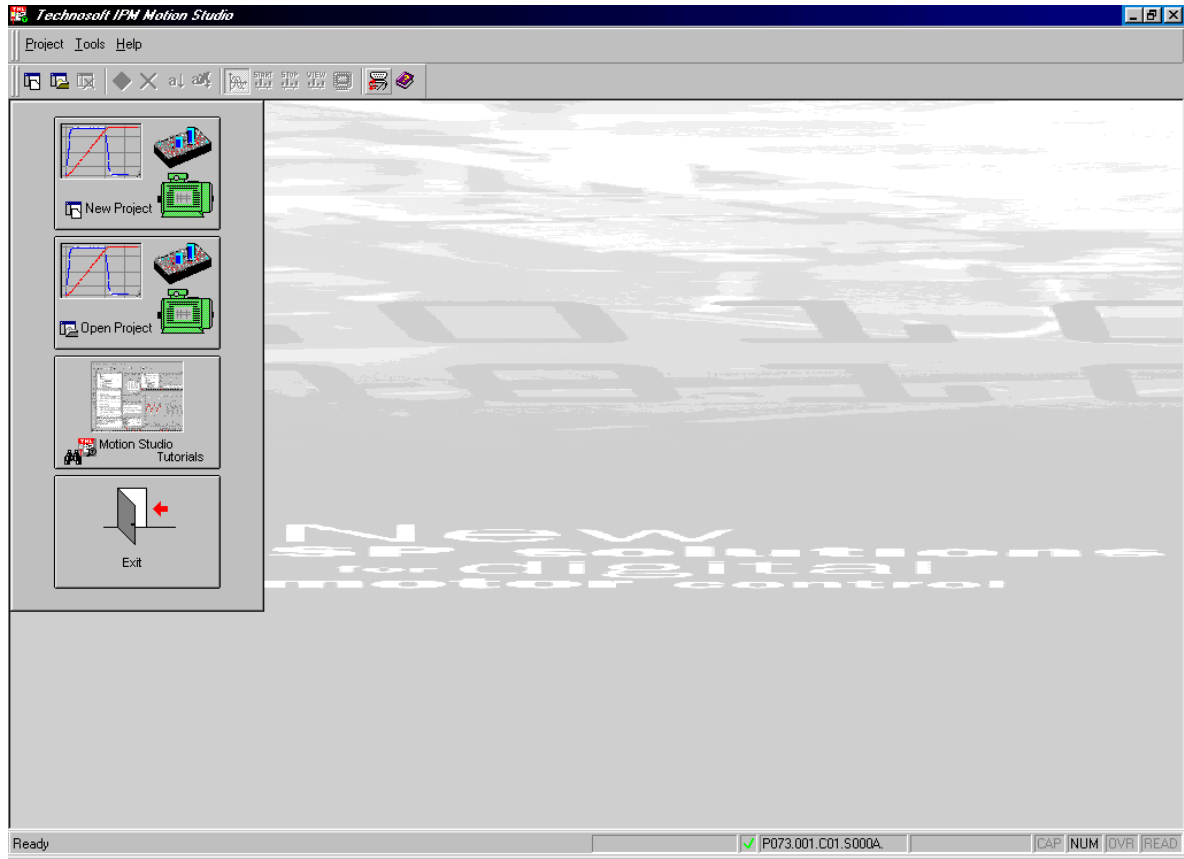

Figure 6. IPM Motion Studio opening screen
1. **Start the execution of IPM Motion Studio;** use the Windows “**Start | Programs | IPM Motion Studio | IPM Motion Studio**” menu command. A dialog as in Figure 6 should be displayed if the communication with the board is established and operates properly.